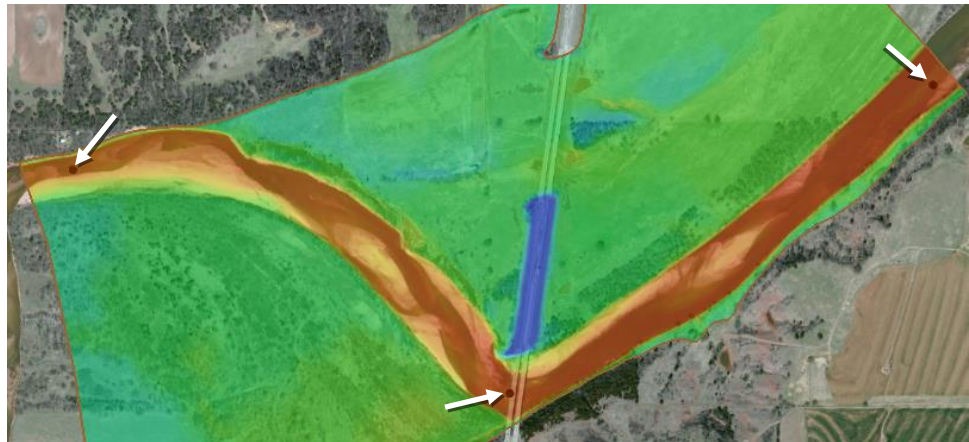

Figure 8 Monitor points at upstream, midway between, and downstream
5. Using the **Create Feature Point**  tool, create three points as in Figure 8.